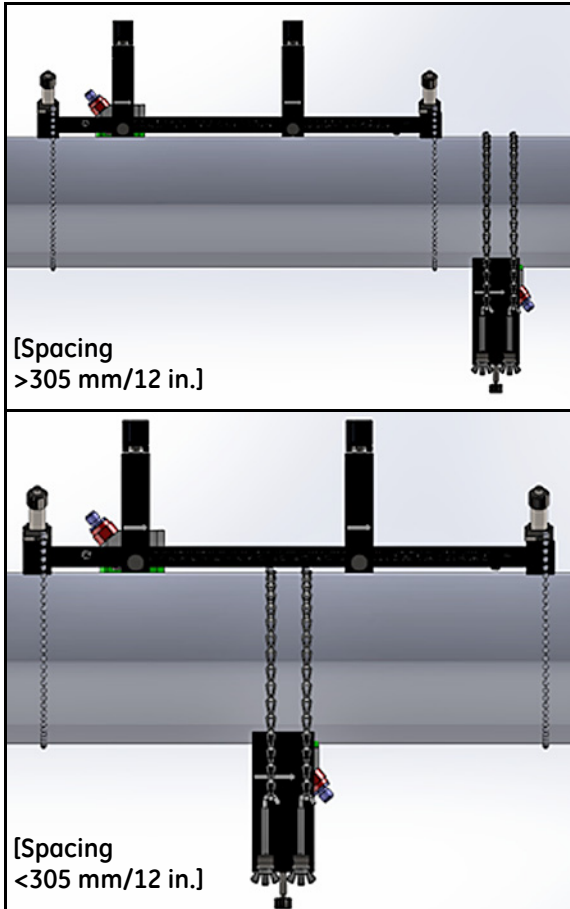

Figure 33: Completed Odd-Traverse Installation (Top View)
9. Tighten the yoke screw until the transducer firmly contacts the pipe. Your completed odd-traverse installation should look like *Figure 33* below.